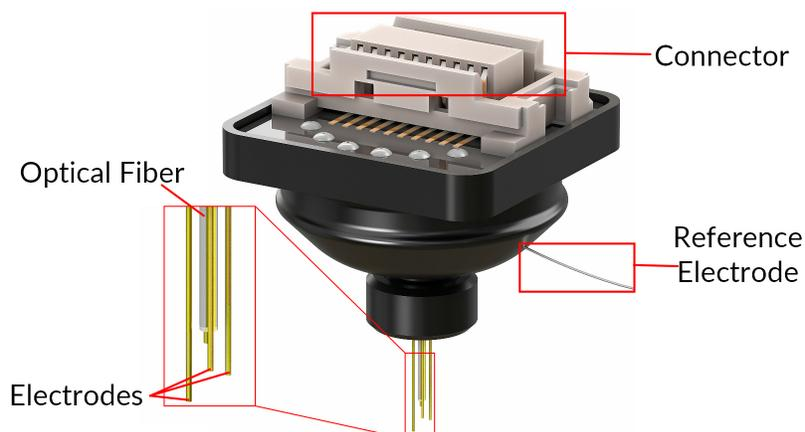

Figure 1.3: *Fi-Wi Opto-electric Cannula*
The *Fi-Wi Opto-electric cannula* (Fig. 1.3) contains an LED connected to a single optical fiber, allowing light to be sent into the region of interest. The cannula also contains the electrodes, positioned around the optical fiber, up to a maximum of 4. Electrode-only and optical-only cannulas are available on request.
- The **Cannula connector** (Fig. 1.3) links the cannula and the headstage, transmitting data and power.